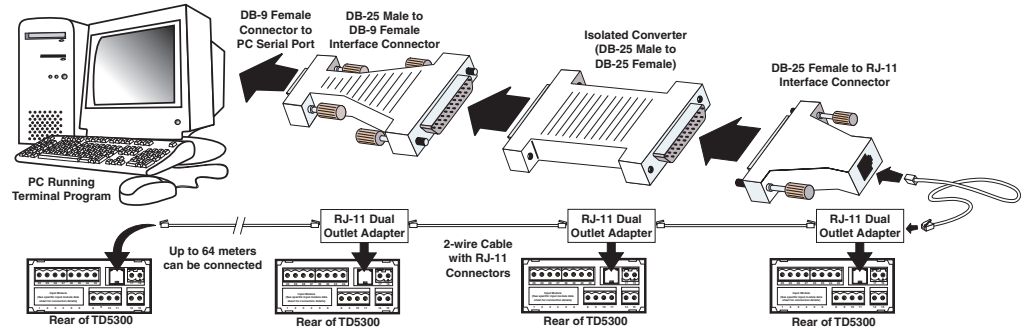

Figure 10 – RS-485 Hardware Connections
The following hardware is required to set the TD5300 up for simple RS-485 communications (see Figure 10):
- Lengths of standard 2-wire telephone cable with male RJ-11 connectors (enough to connect the controllers in series and connect to the RJ-11 to DB-25 interface connector). See Figure 10 and Table 5 for a wiring diagram and pin descriptions.
Figure 10 shows a number of TD5300 controllers with the hardware required to connect directly to a PC using RS-485.
In theory, up to 64 controllers can be connected together. The controllers can be connected together in series or parallel using RJ-11 type connectors or hardwiring (each TD5300 can only be hardwired if it has a screw terminal instead of an RJ-11 connector). Figure 10 has the controllers connected in series using RJ-11 type connectors.
- 1) Connect the controllers together using the 2-wire telephone cables as shown in Figure 10.